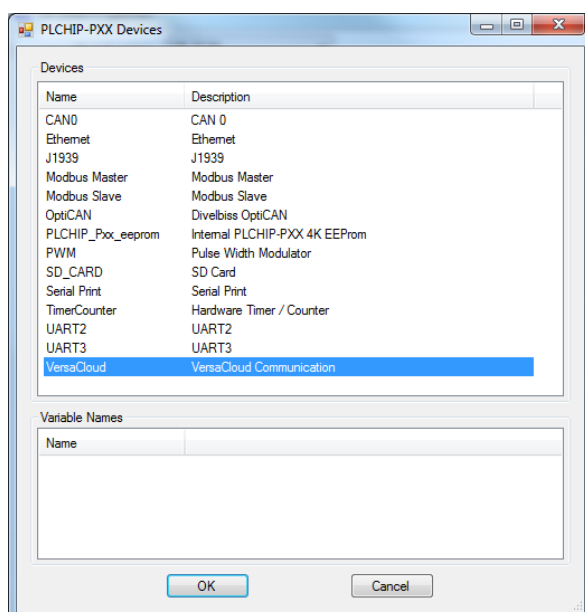

Figure 2-50 - PLCHIP-PXX Devices - VersaCloud
3. Click the **ADD DEVICE** button. The **PLCHIP-PXX Devices** window will open. Locate the **VersaCloud** in the Devices pane of this window. Click / select **VersaCloud** (highlight). Refer to Figure 2-50.